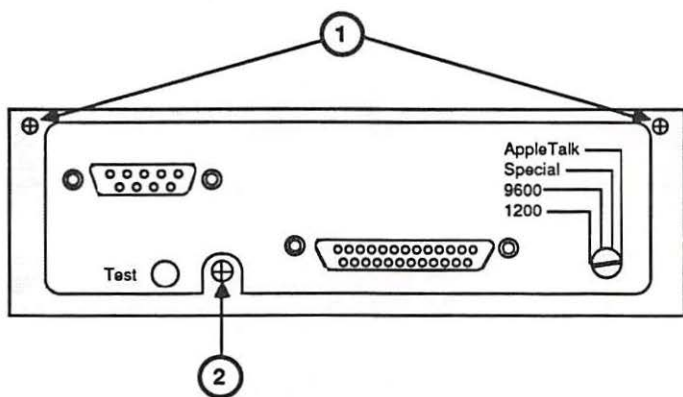

FIGURE 2-45
- c) Remove the two silver mounting screws (Figure 2-45, #1) and loosen the screw at the bottom of the plate (Figure 2-45, #2).